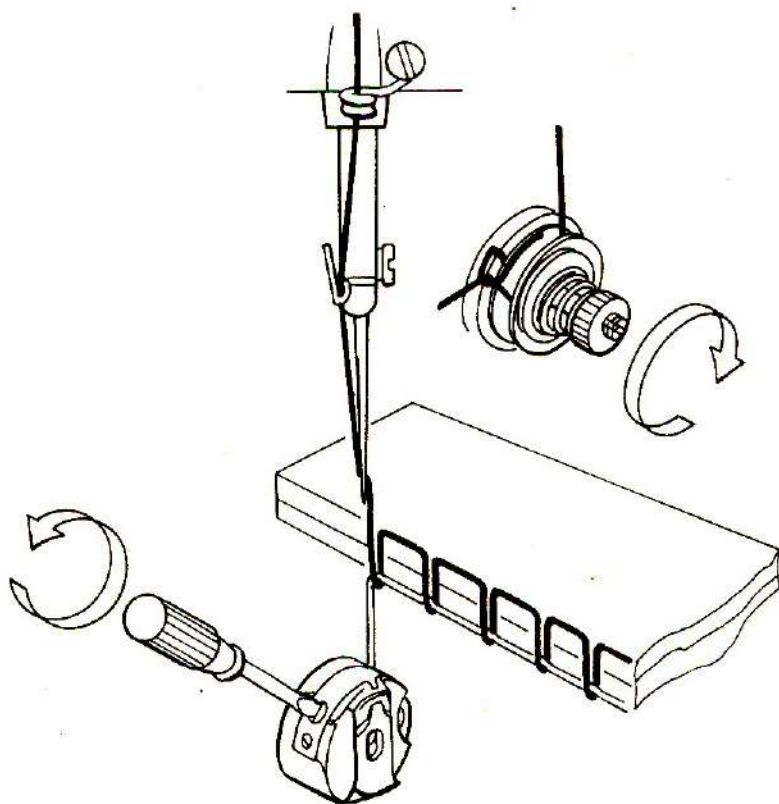

Fig.22
(2) Turn the tension nut clockwise to increase the needle thread tension or loosen the bobbin case spring screw slightly to decrease the bobbin thread tension when the needle thread is too lose or the bobbin thread is too tight (fig 22)
(3) 若出現如(圖二十)中的(d)和(e)的綫迹，可以參照上述方法加以調節。